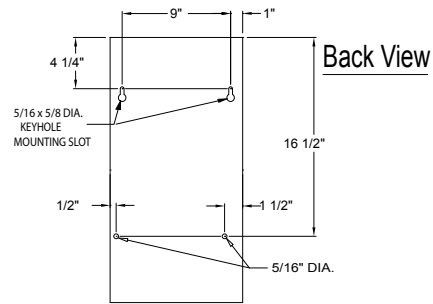

Figure 2
Remove foam packing from top of cylinder. Four lag bolts, (2) 5/16" and (2) 1/4", are supplied with the 6000 unit. Install the top two lag bolts (5/16") according to the dimensions in Figure 2. Hang the unit on the wall, and then install the bottom two lag bolts (1/4") and secure all four bolts. Be sure the unit is level and mounted directly to the wall to wood studs at least 2" thick (or equivalent). Operating weight: 35 lbs.